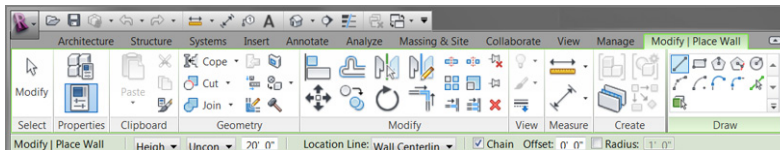

FIGURE 1.7: The Options bar allows you to have additional choices for the current command.
2. After you click the Wall button, notice that Revit adds a tab to the Ribbon with additional choices specific to the command you’re running, as shown in Figure 1.7. You may also notice that Revit places an additional Options bar below the Ribbon for even more choices.